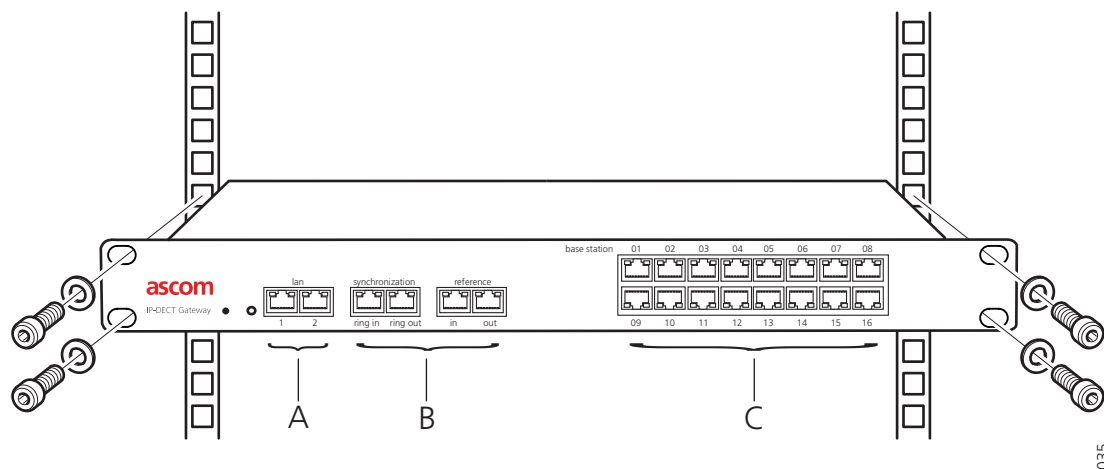
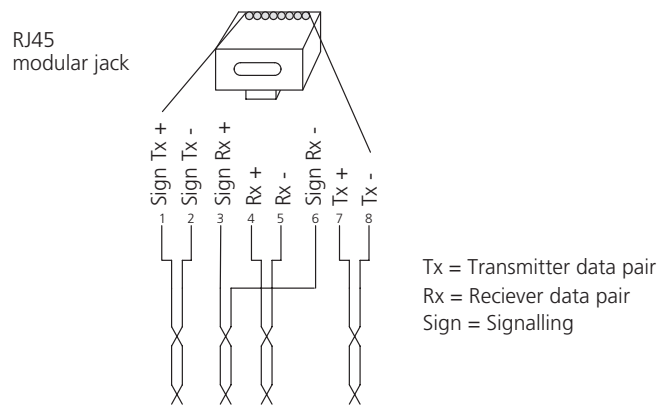

Figure 13. Install the IPBL
Figure 14. Connector pinning of the Sync IN cable
- 2 Connect the cable to a RJ45 modular jack. For information on pinning, see Figure 13 and Figure 14.